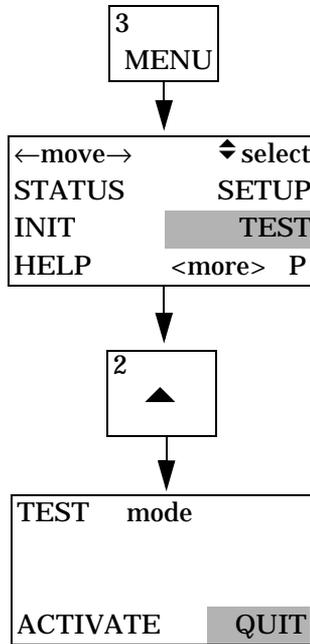

Figure 3-2 Accessing Commanded Self-Test.
3.4.1 Accessing Commanded Self-Test. Commanded self-test is accessed from the *MENU* display, as shown in Figure 3-2.